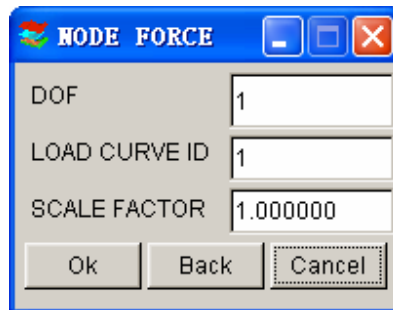

Figure 5.7.3 Define Node Force
- Define node force as shown in Figure 5.7.3.
- Select OK in Figure 5.7.3 to select the nodes to load. Refer to Figure 5.4.2 for selecting nodes.
- Select CANCEL in Figure 5.7.3 to exit.